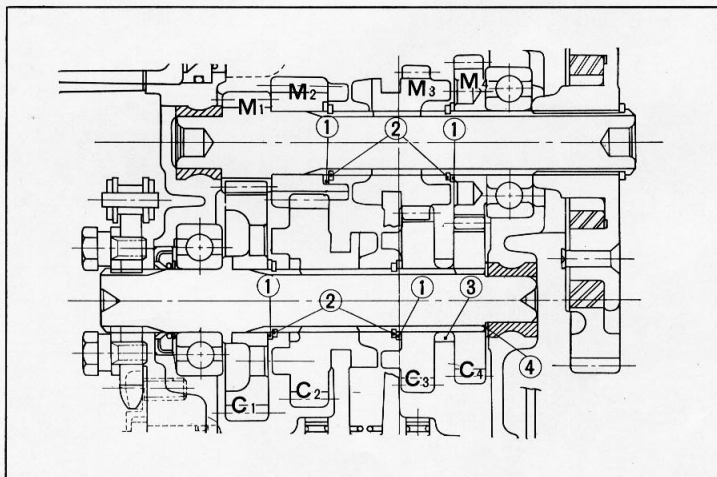

Figure 45. ① 17 mm spline washer ② 17 mm circlip ③ Gear collar ④ 13.5 mm thrust washer
1. Note the right position of each component. (Fig. 45)